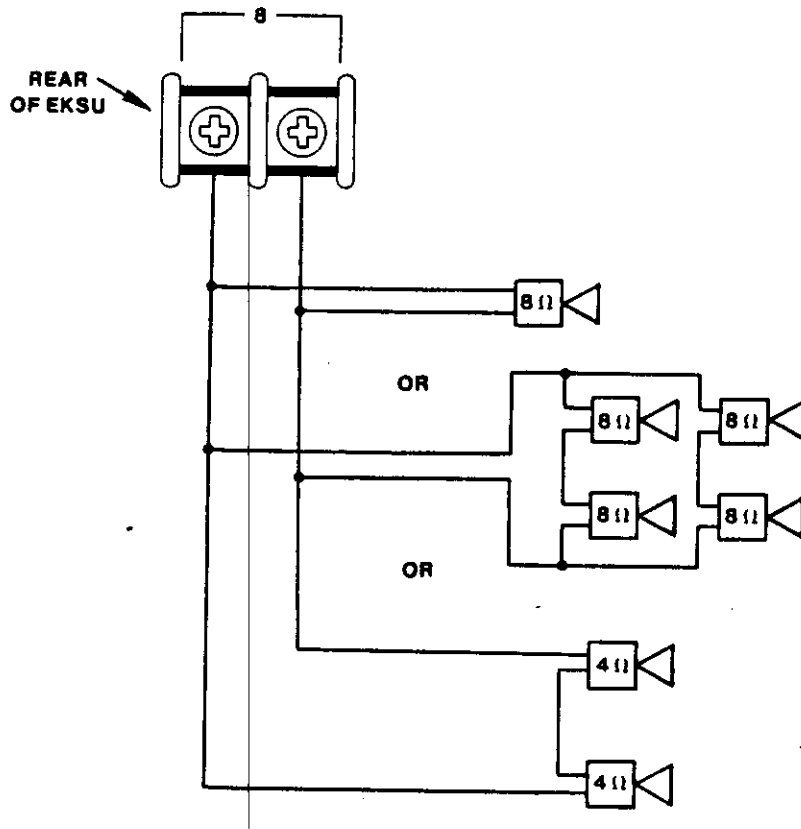

FIGURE 7 - EXAMPLES OF DIRECT SPEAKER CONNECTION
3.1.2 Speaker connections (without external amplifier) will be to the 2 terminals labelled "8" on the rear of the EKSU. (See Figure 6). Examples of speaker connections are given in figure 7.